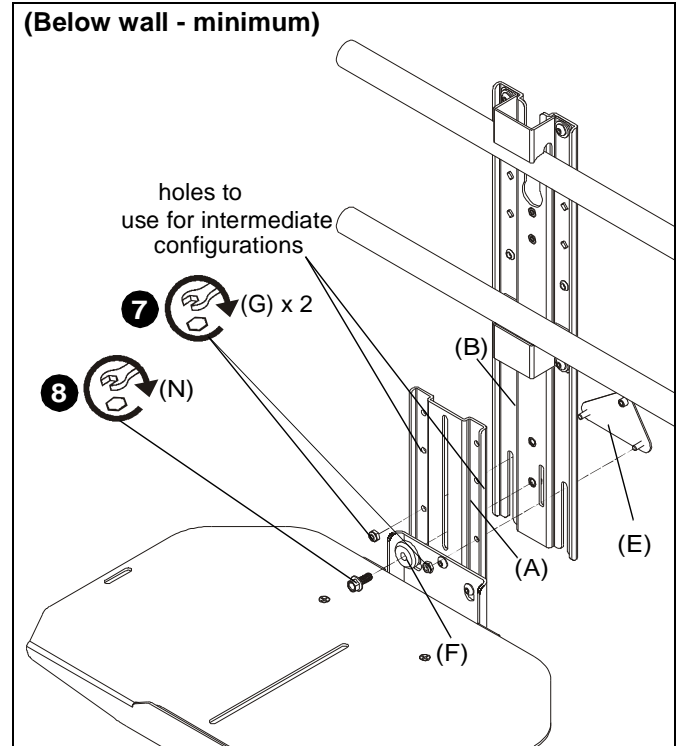

Figure 6
- (For **minimum/intermediate extension**) Use two #10-24 lock nuts (G) to secure upright bracket (A) to main bracket (B) and adapter plate (E). (See Figure 6)
- (For **minimum/intermediate extension**) Use 1/4-20 x 5/8" hex head flange bolt (N) and center washer (F) to secure upright bracket (A) to main bracket (B). (See Figure 6)